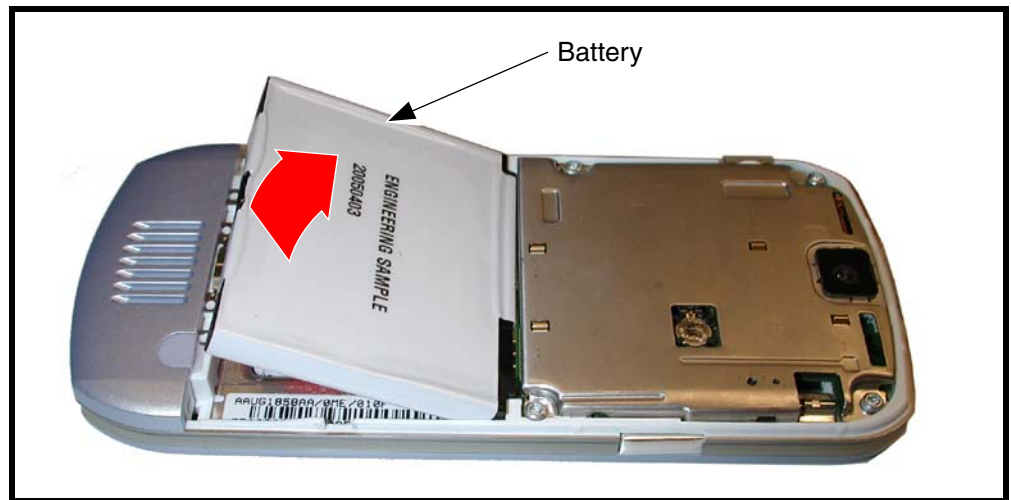

Figure 5. Removing and Replacing the Battery
2. Lift the top end of the battery as indicated by the arrow in Figure 5.